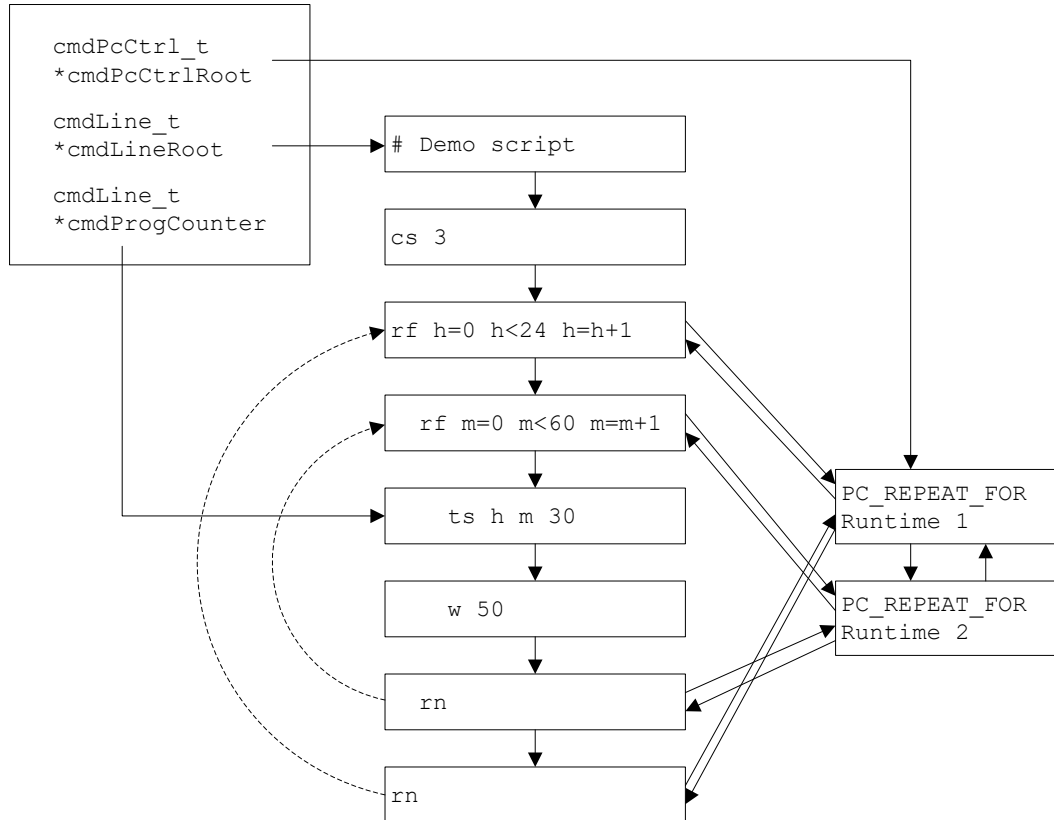

Figure 9: Creating and executing an mchron command list
Using the demo script of the first method as an example, upon entering the 'e' (execute) command the following will take place as depicted in figure 9 below.
- In `doExecFile()`, via function `cmdStackPush()`, function `cmdListFileLoad()` is called to load the file contents into linked list structures as depicted in figure 9 above. Part of loading the file is matching each line with its associated command dictionary entry. Also, the integrity of the command list is checked by matching each 'rf' command with an 'rn' command. When an unknown command is encountered or repeat commands cannot be matched, file loading will abort.